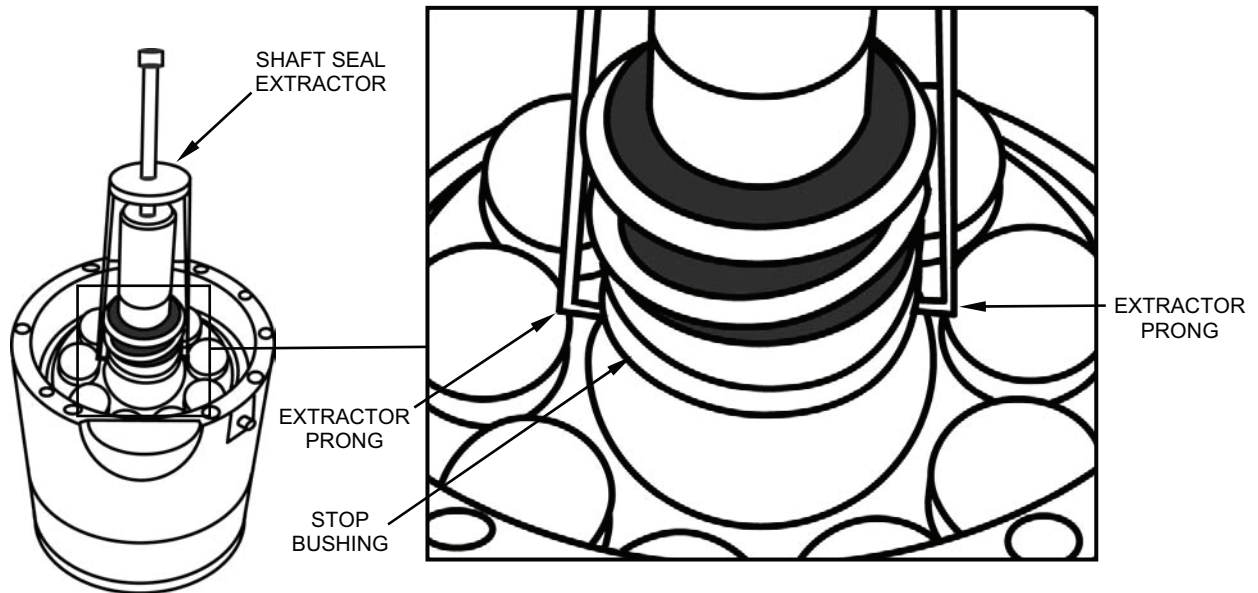

Figure 24. Removing Shaft Seal and Stop Bushing.
- i. Position the prongs of the shaft seal extractor under the shaft seal and remove the shaft seal (see Figure 24).
- j. Lift the stop bushing off the pump shaft (see Figure 24).